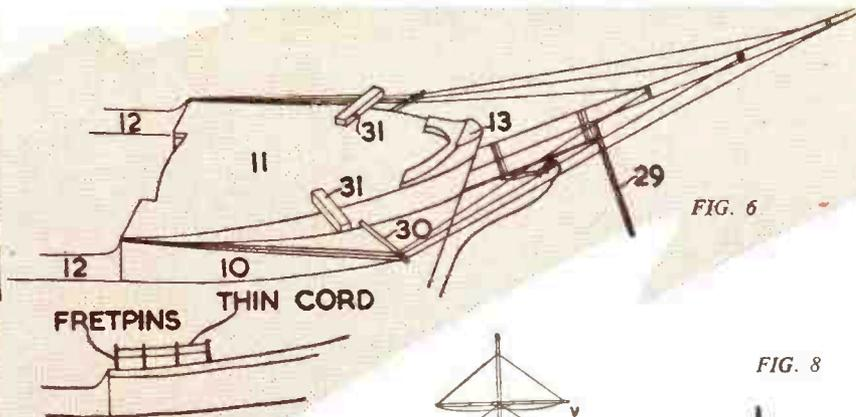

FIG. 7
Handrails are made up from beheaded fret pins and thin cord as seen in Fig. 7. They are inserted in the deck around the bow and stern (see illustration of finished model). Davits are made from wire and inserted in their deck or hull positions. The boats (22) are suspended from davits (23) by means of thin cord, while boats (20) are glued to piece 6. It may be easier to paint the boats before fixing in their appropriate positions. They should be light brown with white tops to represent canvas covers.